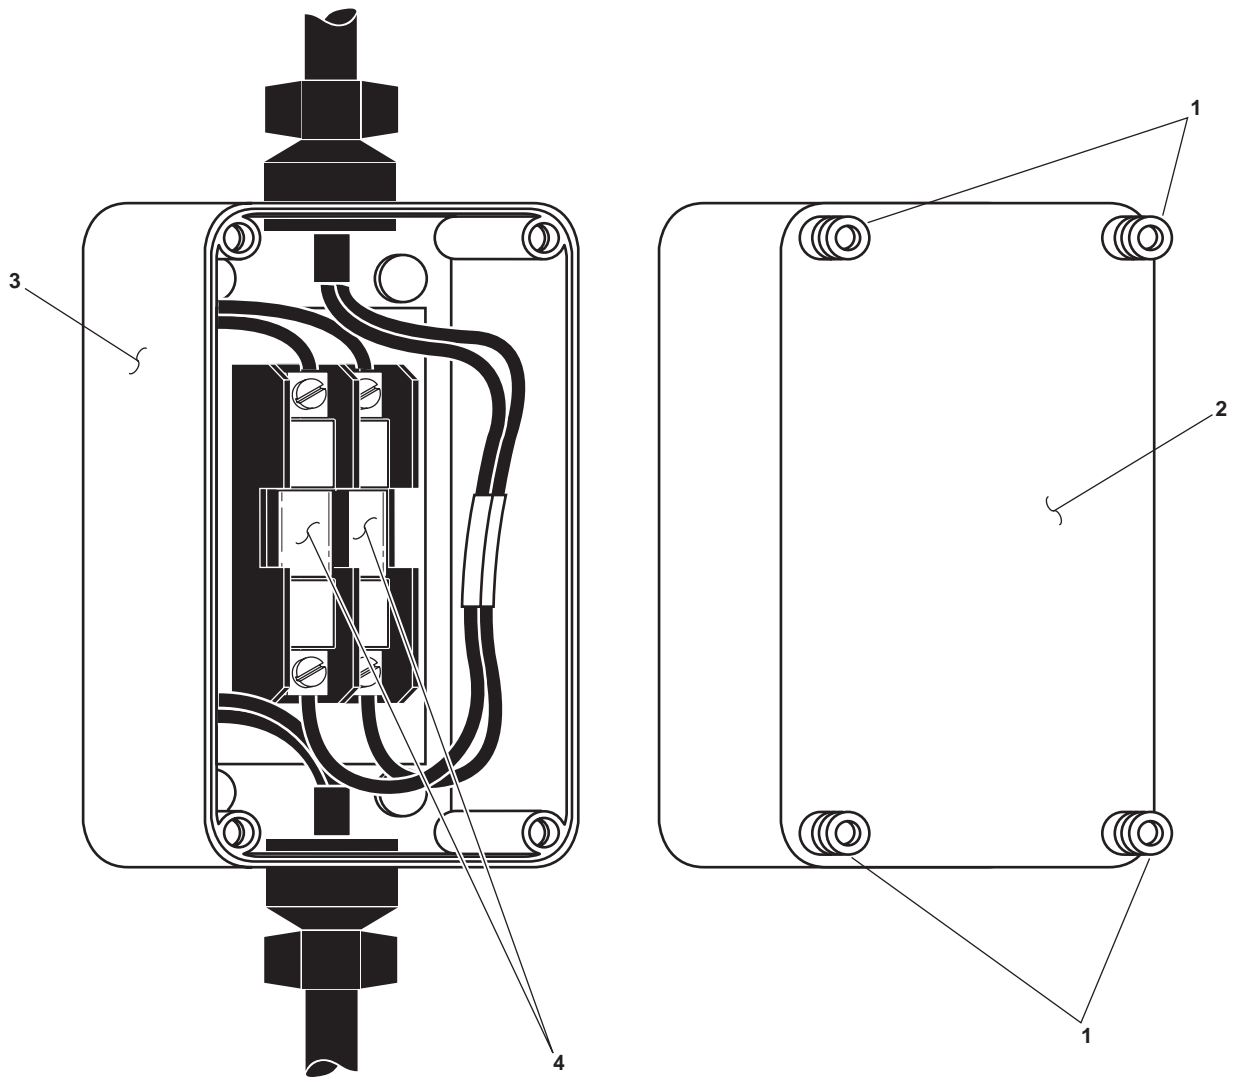

Figure 6. ROWPU 24 Vdc Fuse Box
5. Loosen the four captive screws (figure 6, item 1) on the fuse box cover (figure 6, item 2), and remove the cover from the fuse box (figure 6, item 3).
6. Take voltage readings with a multimeter on both sides of the fuses (figure 6, item 4) to ensure that electrical circuits are deenergized. If voltage is present, ensure that the proper switch is OFF, locked out, and tagged out (FM 55-502) and that the correct ROWPU battery terminals are disconnected. If no voltage is present, proceed with the procedure.
7. Remove the fuses (figure 6, item 4) from the fuse box (figure 6, item 3).
1. Install the fuses (figure 6, item 4) in the fuse box (figure 6, item 3).
2. Install the fuse box cover (figure 6, item 2), and secure it with the four captive screws (figure 6, item 1).